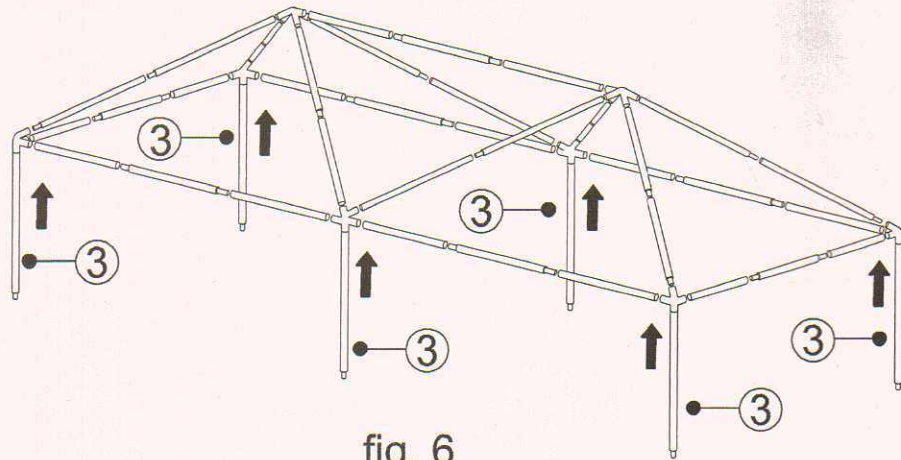

fig. 6
Insert Leg Poles ③ into the unit. Ensure all the poles are fully inserted and secure. See fig 6.